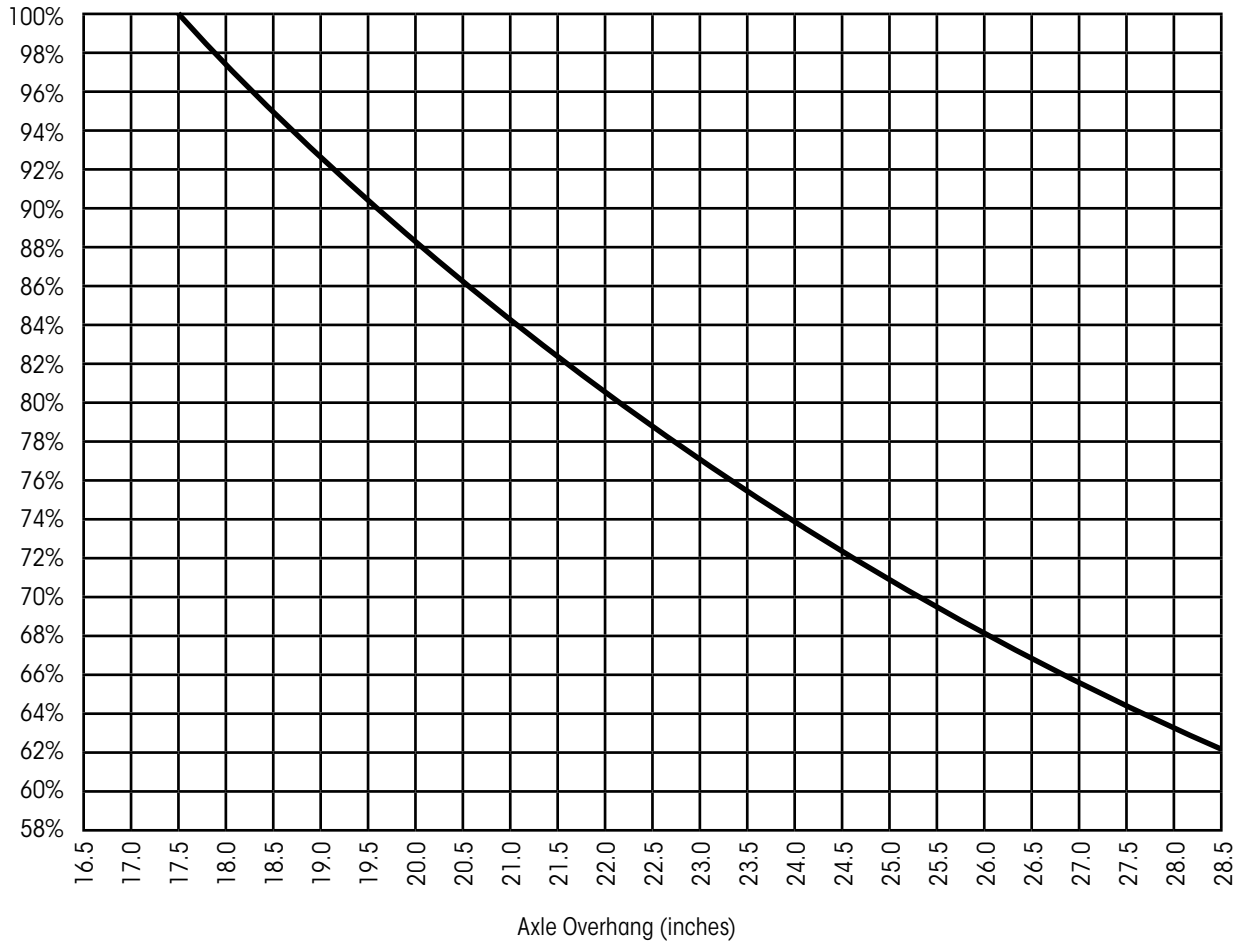

Figure 8: Percentage of nominal beam rating
5. Refer to the "HENDRICKSON TRAILER AXLE BEAM RATINGS" ON PAGE 13 to determine the percentage of nominal rating (Figure 8 on page 13).